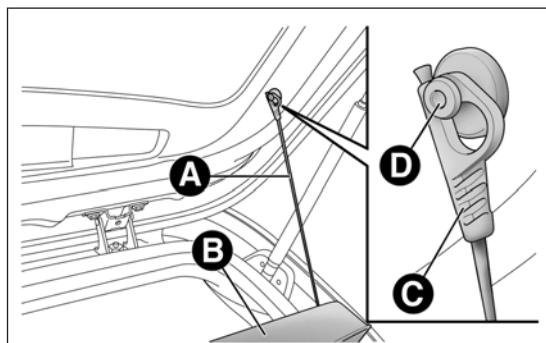

fig. 62
- ☐ free the ends of the two parcel shelf B mounting links A fig. 62 by removing the eyelets C from the mounting pins;